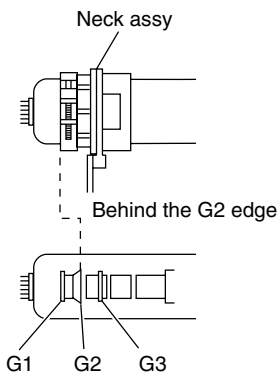

Fig. 6-1
2. Position neck assy as shown in Fig6-1.
4. Move the deflection yoke to the rear and adjust with the purity control so that the green is at the center and the blue and the red take up equally sized areas on each side. (See Figures 6-1 through 6-3.)